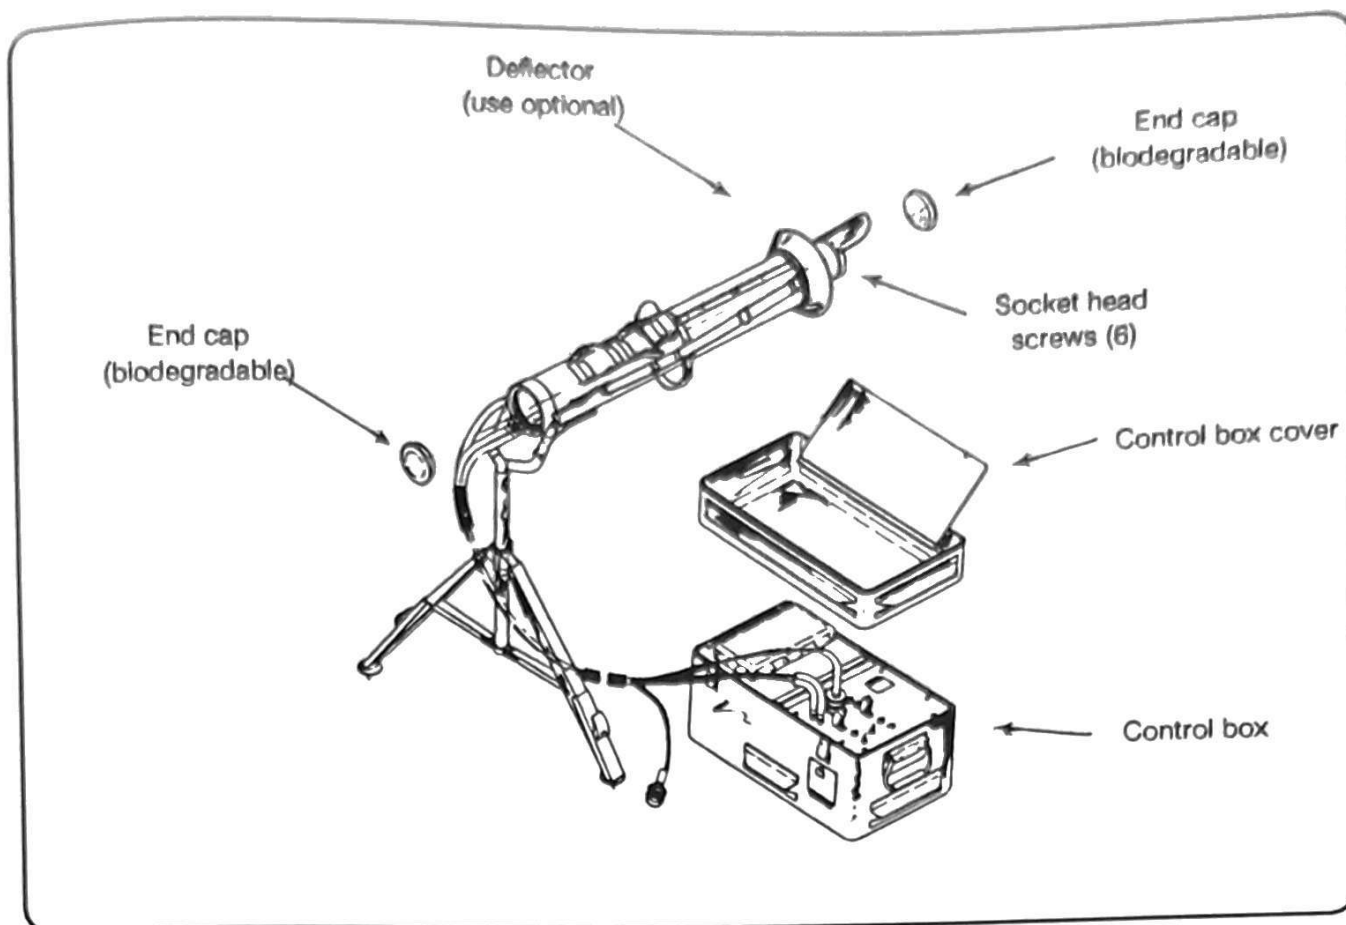

Figure 6-10. LES components.
The LES is about the same size, shape, and weight as the tactical round and simulates its launch environment. (See Figure 6-10.) The LES uses a combination of MAPP gas, oxygen, and biodegradable end caps to produce a realistic simulation of the Dragon launch. The LES launcher is shipped with a blast deflector, which should be installed on the rear of the launcher. The blast deflector causes the rear of the launcher to rise during the firing sequence. This simulates the
c. The LES control box (Figure 6-10) case assembly consists of two sections. The top section (cover) provides hose and cable storage space. The bottom section (base) contains the LES control panel, electronics assembly, battery pack, and MAPP gas and oxygen bottles and their respective regulators.